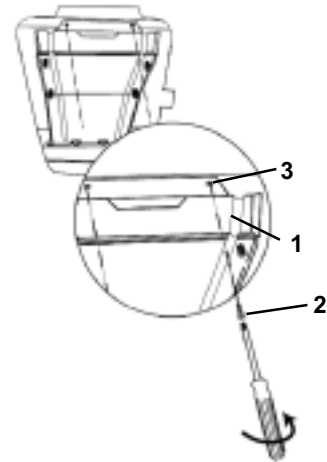

FIGURE 27
2. WITH THE TOP DVD MOUNTING BRACKET TABS IN-PLACE, PUSH THE REAR SIDE OF THE BRACKET (1) UPWARD AND USE THE SUPPLIED TWO SELF-DRILLING SCREWS (2) TO SECURE THE BRACKET TO THE ROOF BOW(3). (SEE FIGURE 27)